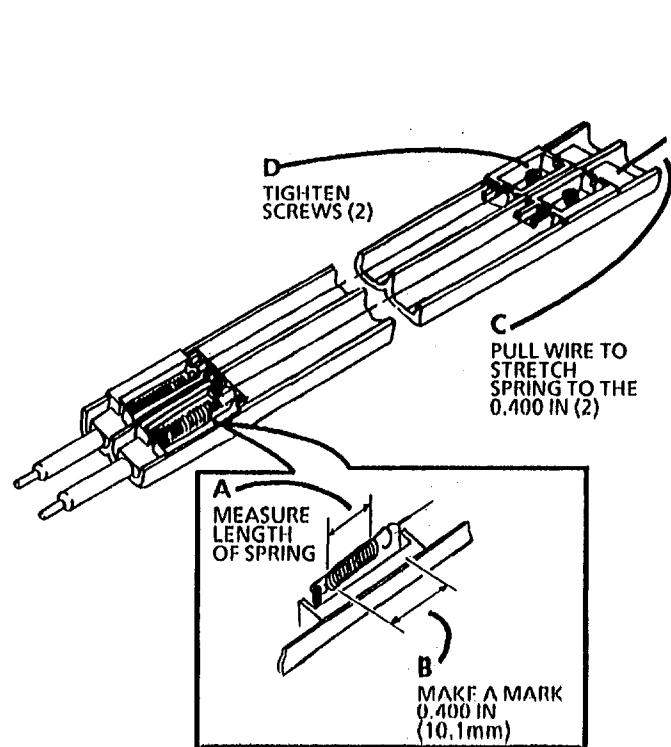

Figure 4. Pretension the Springs
3. (Figure 4): Pre-tension springs.